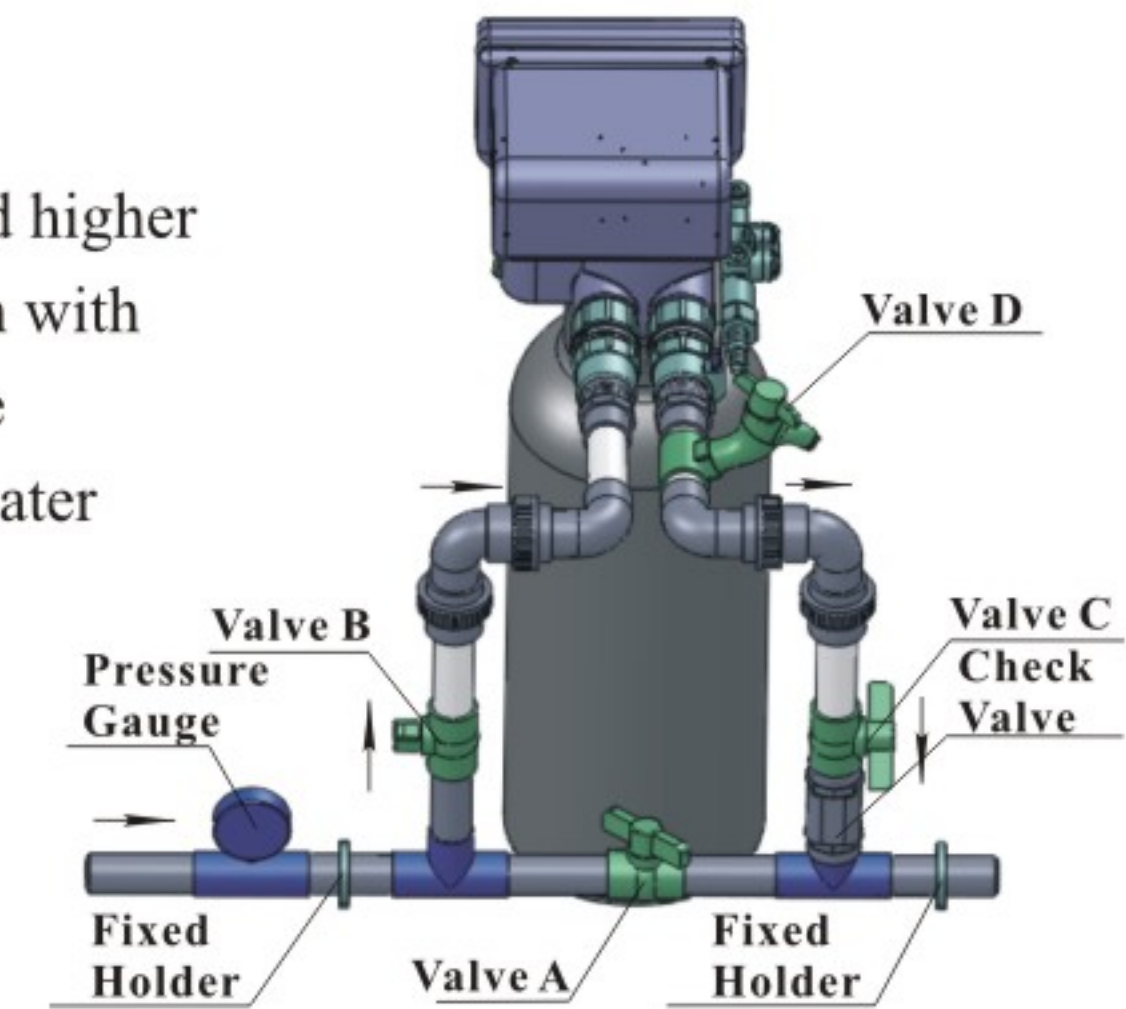

Figure 1-3
④ Pipeline connection
a. As Figure 1-3 shows, install a pressure gauge in water inlet.